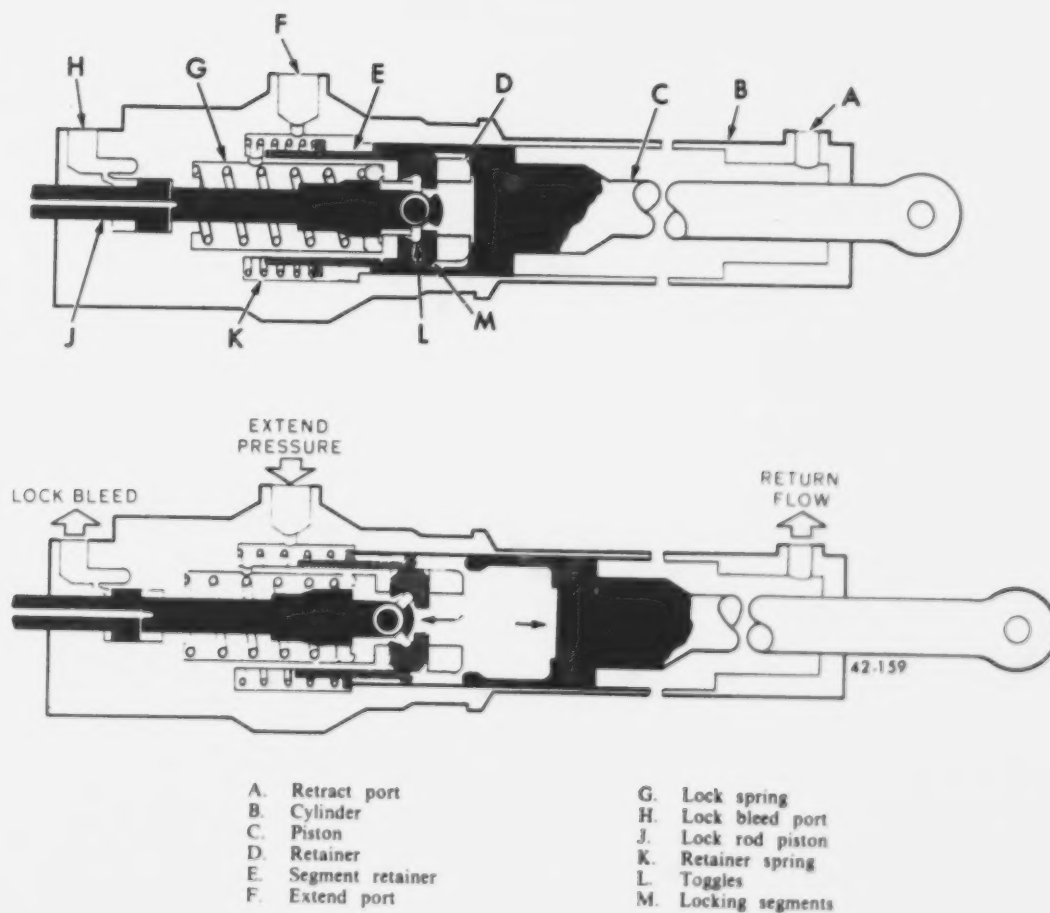

Figure 4-17. Internal lock actuating cylinder.
Toggle-lock actuator. Figure 4-17 shows a typical actuating cylinder (B) with an internal lock. This
When fluid enters the retract pressure port (A), it pushes the piston (C) to the left. As it approaches the lock, the lips of the hollow piston head enter the space between the retainer (D) and the cylinder wall. Compare the upper and lower views of figure 4-17. As the lips slide in, they contact the segment retainer (E) and push it back, compressing the retainer spring (K). (See fig. 4-17, upper view). When the lips pass beyond the locking segments (M), the segments will spring up behind the lips. When the segments move outward, they make more space for the toggles (L). The toggles can now take the vertical position, as shown in the upper view of the figure. When the toggles move to the expanded position, the lock rod piston (J) can move to the right. The lock spring (G) pushes the lock rod piston to the right. There it locks the toggles that in turn lock the segments that lock the piston. This action prevents the piston from being pulled out.
Using figure 4-17, answer the following questions.